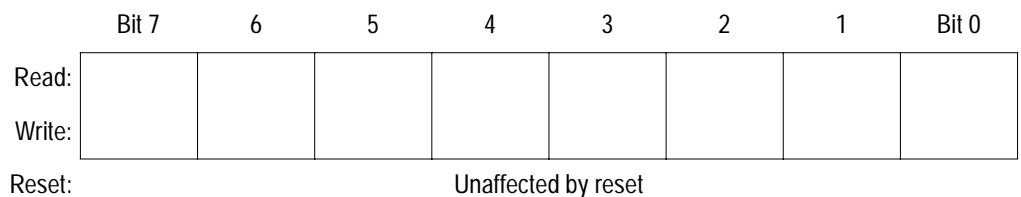

**Figure 3-2. Accumulator (A)**
The accumulator (A) shown in Figure 3-2 is a general-purpose 8-bit register. The CPU uses the accumulator to hold operands and results of arithmetic and non-arithmetic operations.